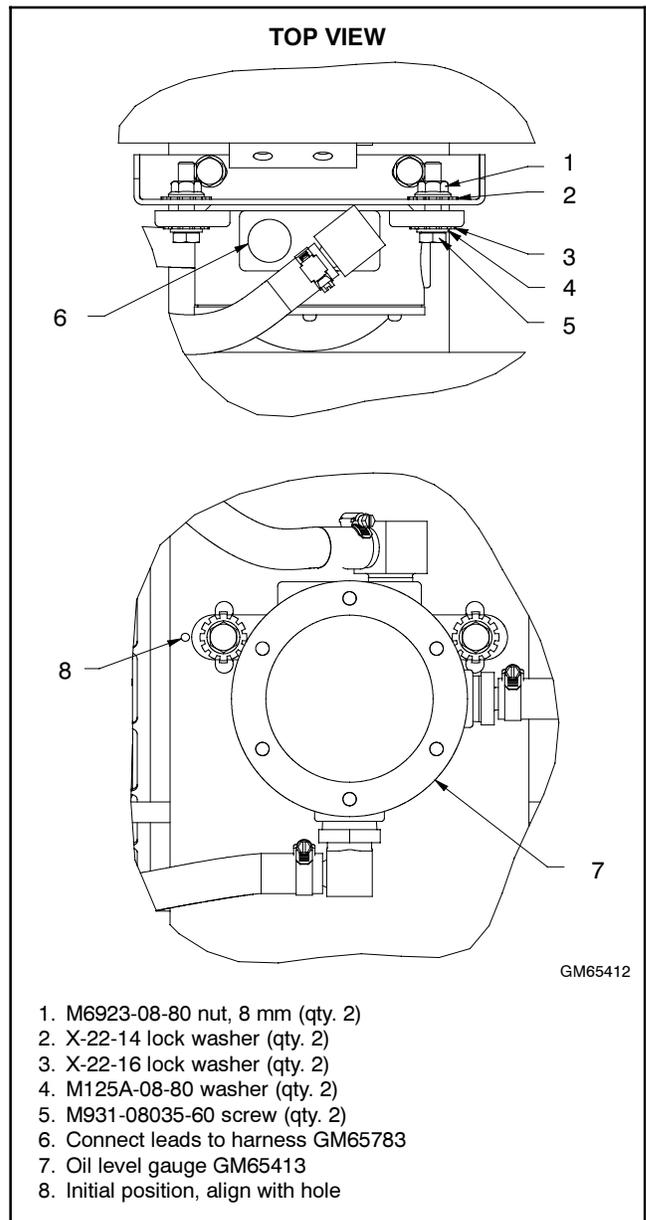

Figure 7 Oil Level Gauge GM65413 Mounting
11. Mount the oil level gauge assembly, GM65413, onto the bracket as follows. See Figure 7.
- b. Set the initial height of the assembly so that the center of the mounting screw lines up with the small hole on the mounting bracket and the sight glass is level. See Figure 7. Do not final tighten the mounting screws until the height adjustment procedure in step 28.